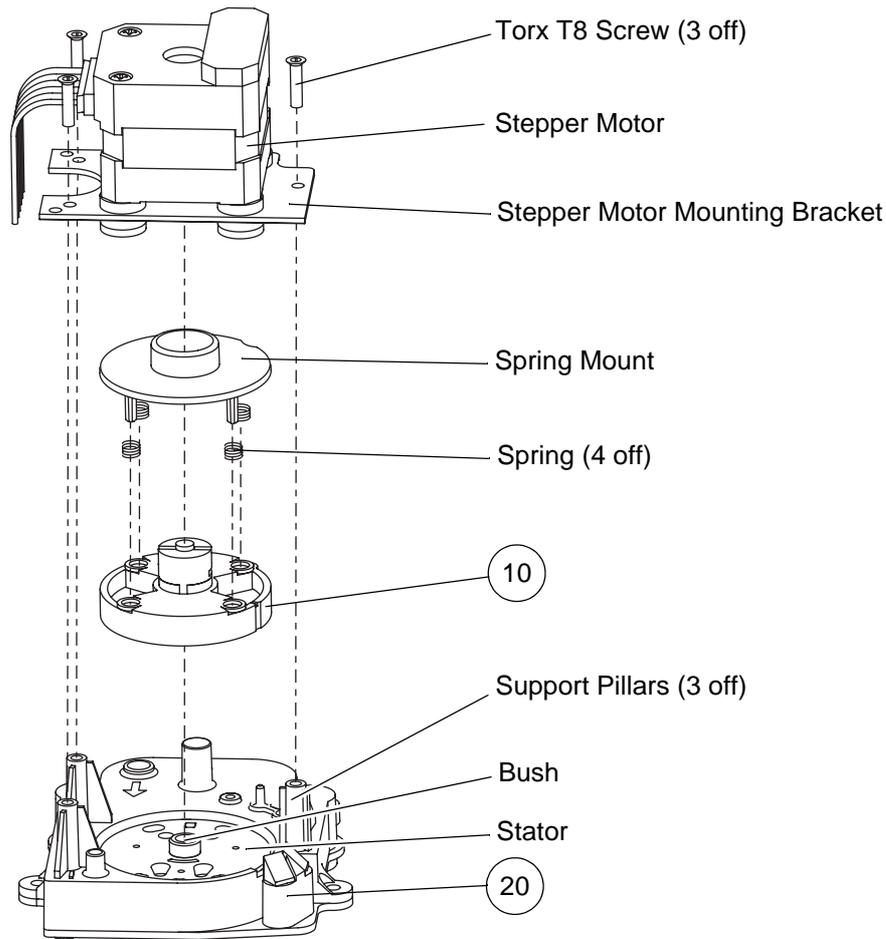

Figure 44 - Replacing the Motor and Manifold Sub-Assemblies
19.12 Put the motor and manifold assembly on a flat surface, and using a Torx T8 screwdriver, remove the three screws which secure the stepper motor mounting bracket to the old module and stator sub-assembly (refer to Figure 44).
19.20 Lightly press the spring mount and new pinned rotor assembly together, so that the four springs are retained between them, and do the following (refer to Figure 44):
19.24 Assemble the stepper motor and mounting bracket onto the spring mount and the module and stator sub-assembly, as follows (refer to Figures 44 and 46):
19.24.3 Using a Torx T8 screwdriver, install the three screws to secure the stepper motor mounting bracket to the module and stator sub-assembly (refer to Figure 44).